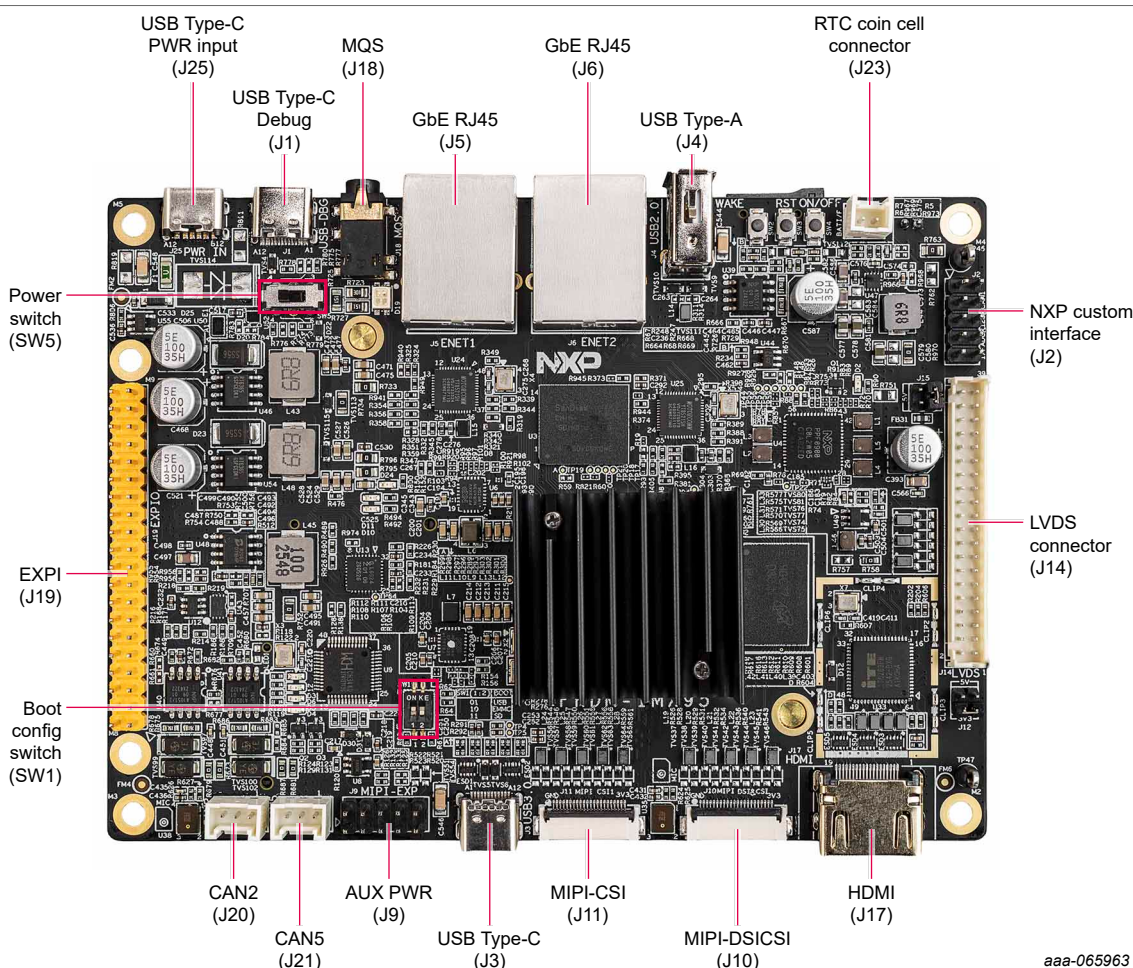

Figure 1. i.MX 95 15 mm x 15 mm FRDM board top view
Figure 1 shows the top view of the i.MX 95 15 mm x 15 mm FRDM board.
3. Set i.MX 95 15 mm x 15 mm FRDM to download mode (01) using boot switch SW1.
4. Attach USB Type-C cable to USB port J3 in Figure 1 on i.MX 95 15 mm x 15 mm FRDM board.
1. Connect the USB-C cable into the USB Type-C debug port on i.MX 95 15 mm x 15 mm FRDM board, and the other end to the PC. See J1 in Figure 1.
1. Connect the USB-C cable into the debug port (J1 from Figure 1) on i.MX 95 15 mm x 15 mm FRDM board and the other end to the PC.